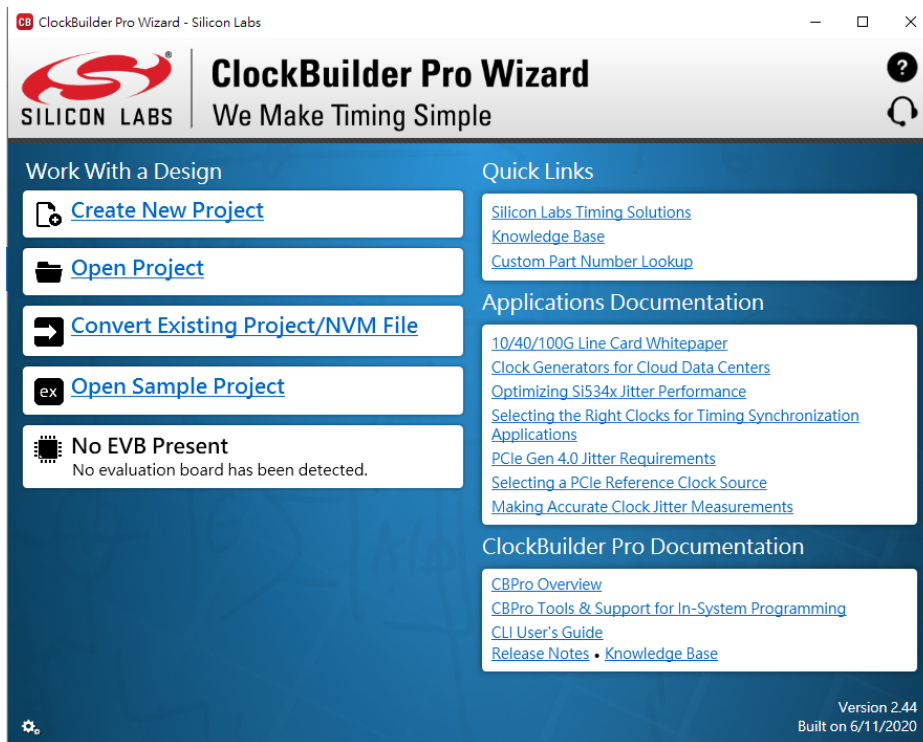

Figure 5-5 ClockBuilder Pro Wizard
3. After the setting is completed, ClockBuilder Pro Wizard generates a Design Report(text), which contains users setting frequency corresponding register value (See **Figure 5-5**).